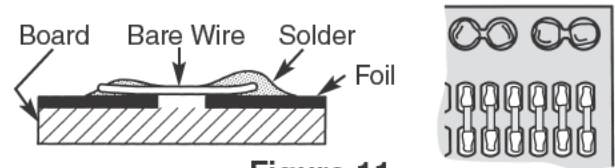

Figure 11
For wider gaps in a copper foil, a solder bridge can not be used. A small wire would be used to bridge the copper as shown in Figure 11. Six bridges will be made across the two rows of small pads.
4. Hold the wire on the top pad and then place the iron on the wire. The solder will melt and the wire will press down against the pad (see Figure 11). Remove the iron while holding the wire in place against the foil. Make sure the wire does not move until the solder hardens.
7. Cut the wire off as close to the solder joint as possible (see Figure 11).